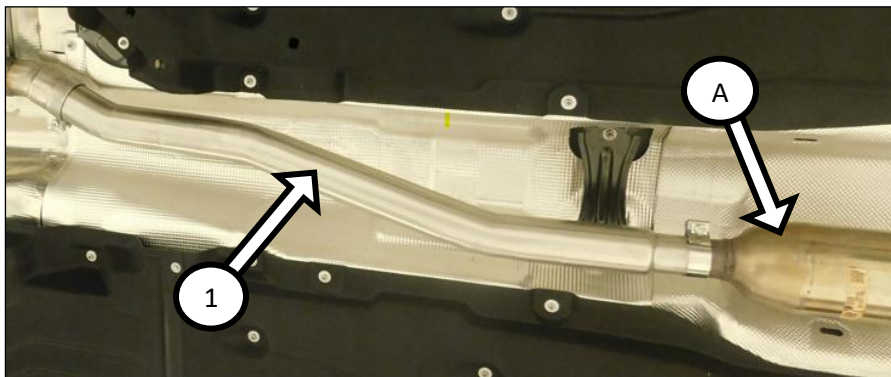

Figure 5
2. Install the muffler inlet pipe **(1)** reduced end on to the catalytic converter **(A)**. Rotate the inlet pipe level with the outlet towards passenger's side of the vehicle. Snug the clamp just enough to hold the pipe in place, but allow for adjustment later **(Fig. 5)**.